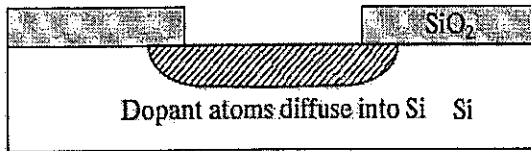

Figure 10
- (c) Show the step-by-step procedures for fabricating the structure in a silicon wafer as illustrated in Figure 10.